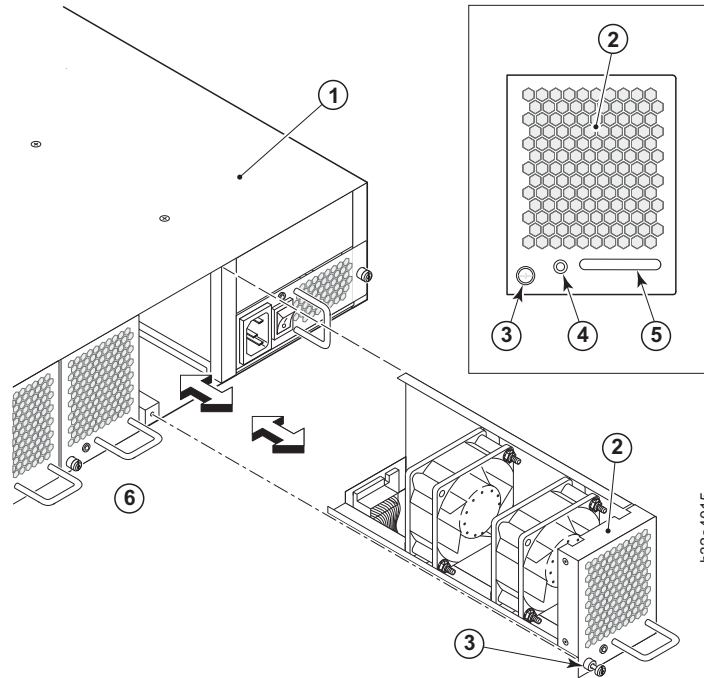

Figure 20. Replacing a fan assembly
1. Using a Phillips-head screwdriver, unscrew the captive screw (**3** in Figure 20 on page 41) on the fan assembly.